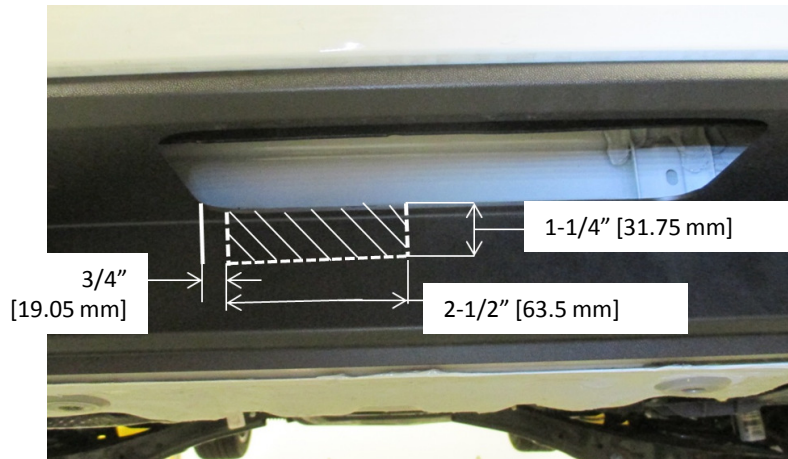

Figure 5
9. Trim fascia: From edge of fascia opening, measure and mark 3/4" [19.05mm] over. Measure over 2-1/2" [63.5 mm] down 1-1/4" [31.75 mm]. Carefully trim, fascia as shown in figure 5.